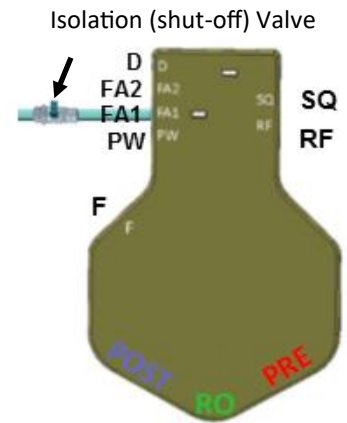

Figure 6
- Make sure that a 3/8” isolation/shut-off valve is installed at the system in the hot tank line and easily accessible under the sink cabinet (Figure 6).